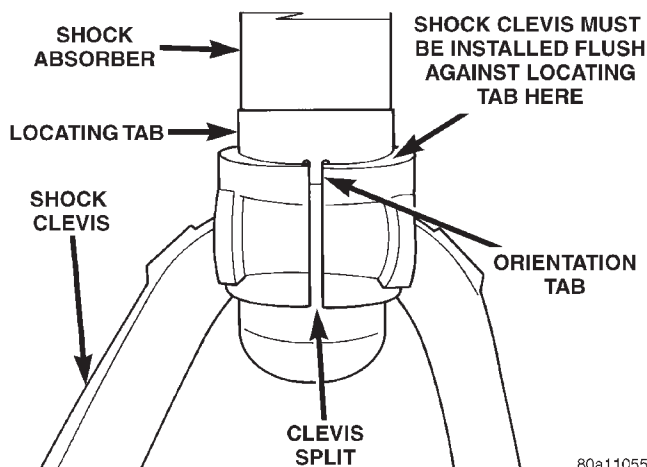

Fig. 9 Clevis Correctly Installed On Shock Absorber
(2) Install the clevis on the shock absorber. Clevis is installed by tapping it onto the fluid reservoir of the shock absorber using a soft (brass) drift until fully seated against locating tab on shock absorber (Fig. 9). Orientation tab on locating tab must be positioned in the split of the clevis (Fig. 9).